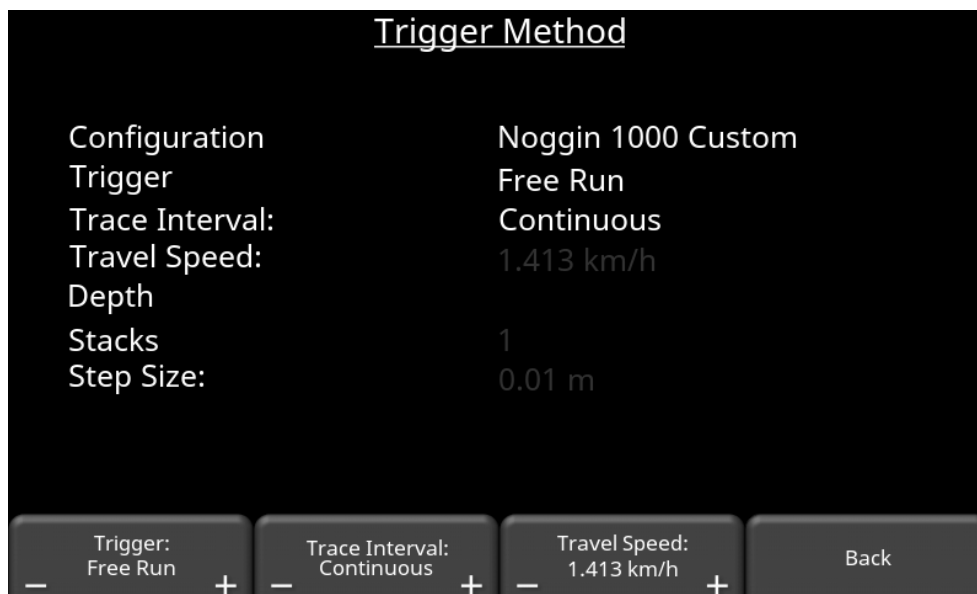

Figure 5-9: Triggering Method menu, currently set to Free Run continuous mode
Pressing this button takes you into the Trigger Method menu, Figure 5-9. This menu allows you to set various options that control the way the Noggin is pulsed. The system can be triggered to pulse the GPR in different ways. The most common is via the odometer, but there are other ways. Pressing the + and – buttons under Trigger changes the method, as well as the bottom menu options. Each is explained in detail below:
- **Free Run** – in some cases, collecting data with an odometer is not practical or even possible. Free run mode will allow the Noggin to pulse based on a specified trace interval or pulse continuously (zero delay, shown in Figure 5-9). The trace interval (time between trace collections) can be varied from a little as 0.01s up to 60s.
Exits the Custom Config menu and return to the screen shown in Figure 5-9.